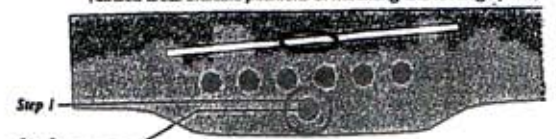

Figure 2
- b. To install a JLD Bridge System, you must drill a hole in the bridge centered between the D and G holes midway between the back of the bridge and the pin holes. Mark the hole position, center punch it, then drill the 1/4" hole about 1/8" deep to accomodate the screw head and the filler dot. **This hole should be drilled by hand, not with a high speed electric drill.** In the center of this hole drill a hole through the bridge and top of the guitar using a 9/64" bit. (Refer to Figure 2)